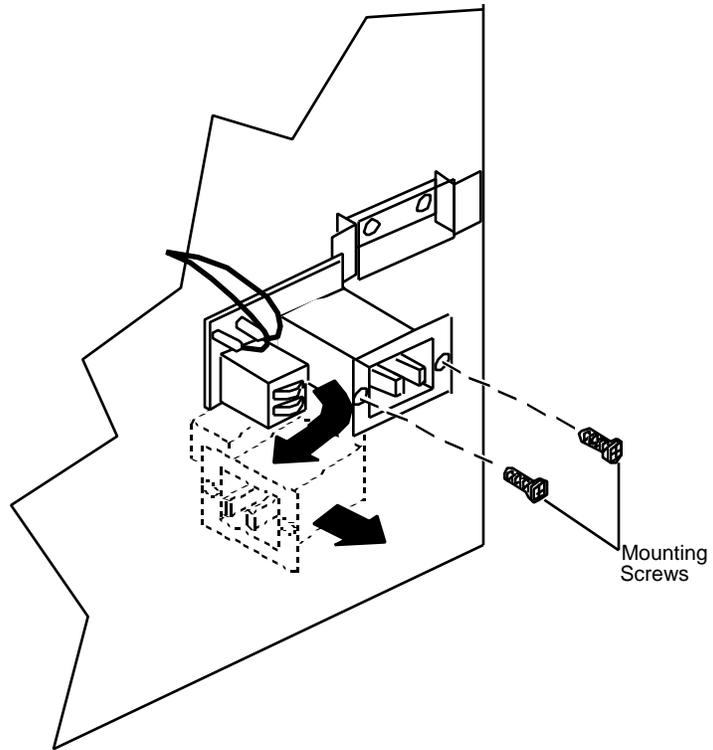

FIGURE 19
5. Remove the two mounting screws, and carefully remove the AC input/filter assembly through the mounting hole in the chassis (Figure 19). To remove the input/filter assembly, turn it left (clockwise) as you pull it through the mounting hole.
1. Install the new AC input/filter assembly on the chassis mounting bracket with two screws (Figure 19). To install the input/filter assembly, first insert the cables and filter board through the chassis mounting hole, and then turn the assembly to the right (counterclockwise) to insert the AC inlet.